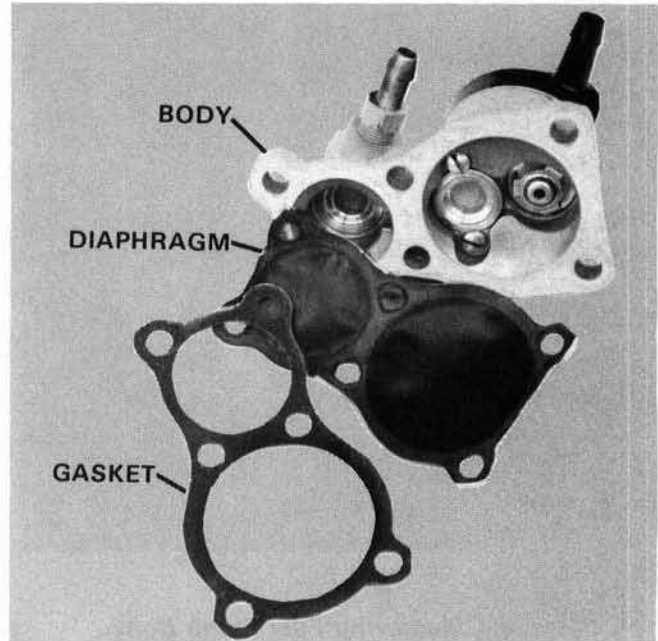

Figure 9. Assembling Fuel Pump Body.
- A. Position fuel pump gasket and diaphragm on fuel pump body. Figure 9.